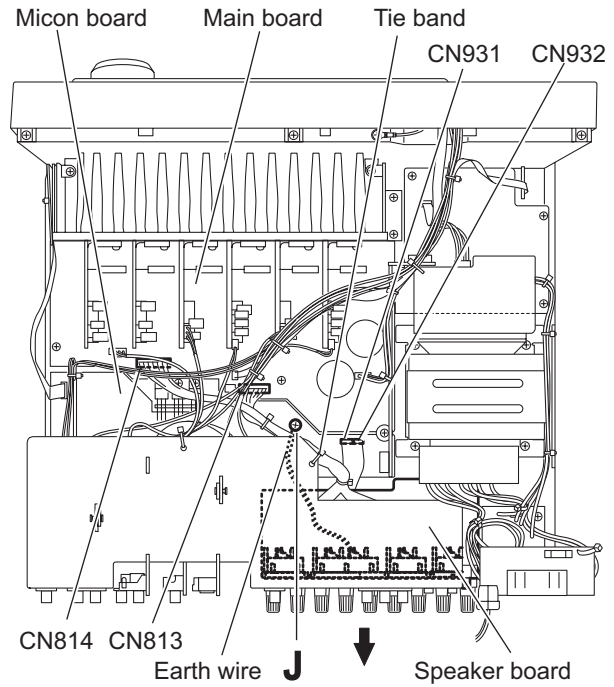

Fig.8
3.7 Removing the speaker board (See Fig.8)